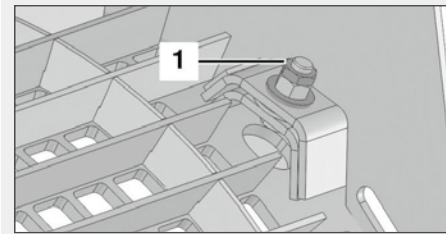

Fig. 12: Tighten the replaceable rear basket grid firmly
17. Fix the replaceable rear basket grid with the second hex nut (fig. 12/1) firmly to the bottom of the replaceable rear basket grid holder.